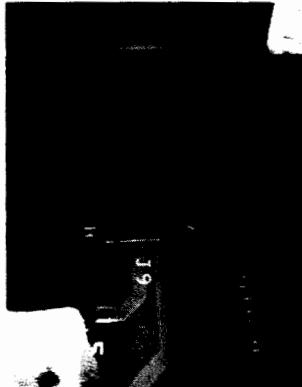

Figure 6 – Jumper Position A
2. Ensure the jumper is located in correct position. This should be the same position as the board being replaced. The jumper should be in position A on Elite and Elite FT boilers, and in position B on all other models. Move the jumper if necessary. See Figures 6 and 7.